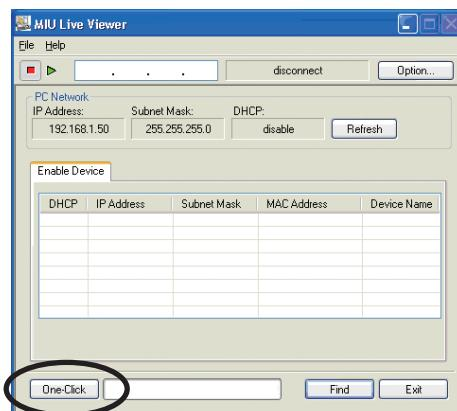

Fig. 2.2.a “MIU Live Viewer” initial window
• If you like to set these items, please set again from Web browser (41).
- 3) Start up “MIU Live Viewer”. Window appears in Fig. 2.2.a. (41)
- 4) Click [**One-Click**] button in Fig. 2.2.a, then projector will be found. And the capture start button  is activated, then real time display will be started automatically.
- 1) When projector network settings such as IP address and subnet mask are changed, need to return to the projector factory default settings. (8)
- 3) Start up “MIU Live Viewer”, then the window appears (Fig. 2.2.a).